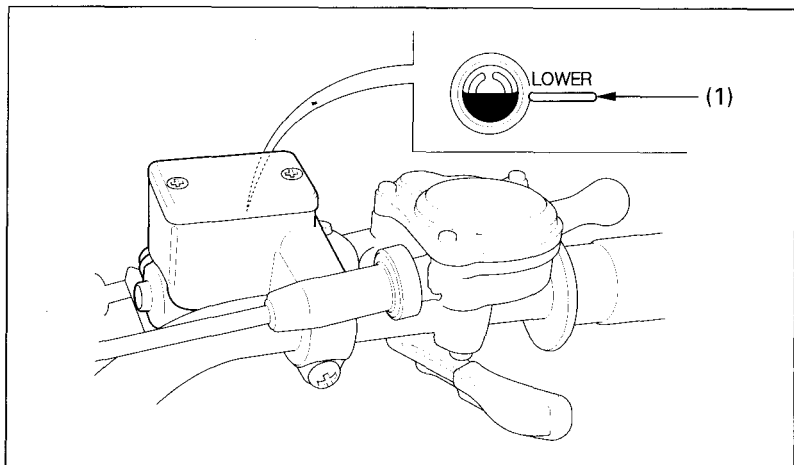

Fig. 4-26
Brake fluid must be added to the reservoir (Fig. 4-26) whenever the fluid level approaches the lower level mark (1). Use only DOT3 or 4 brake fluid and have it added by an authorized Honda dealer.